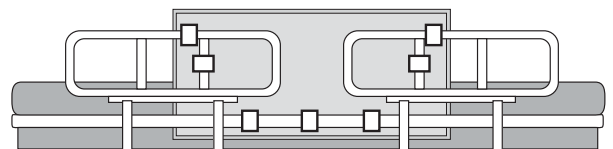

Fig. 3
5. While not all straps may be applicable for use on some bed models, ensure that enough of the straps are attached to secure the pad on the bed (Example of a properly installed AL-62615 shown in Fig. 3).